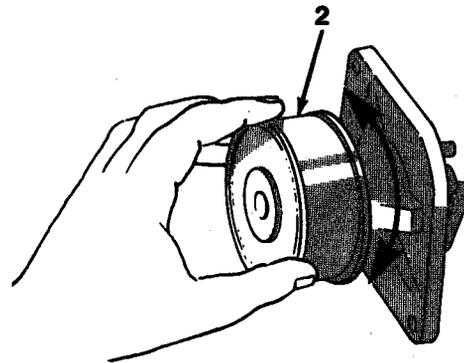

Figure 9-2
3. Inspect for free rotation of water pump (2, Figure 9-2).